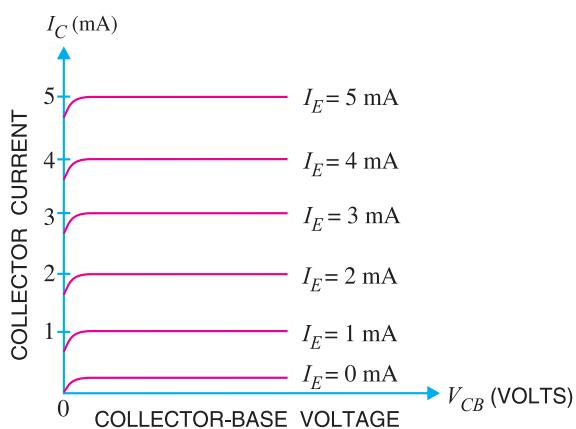

Fig. 8.15
2. Output characteristic. It is the curve between collector current I_C and collector-base voltage V_{CB} at *constant emitter current I_E . Generally, collector current is taken along y-axis and collector-base voltage along x-axis. Fig. 8.15 shows the output characteristics of a typical transistor in CB arrangement.